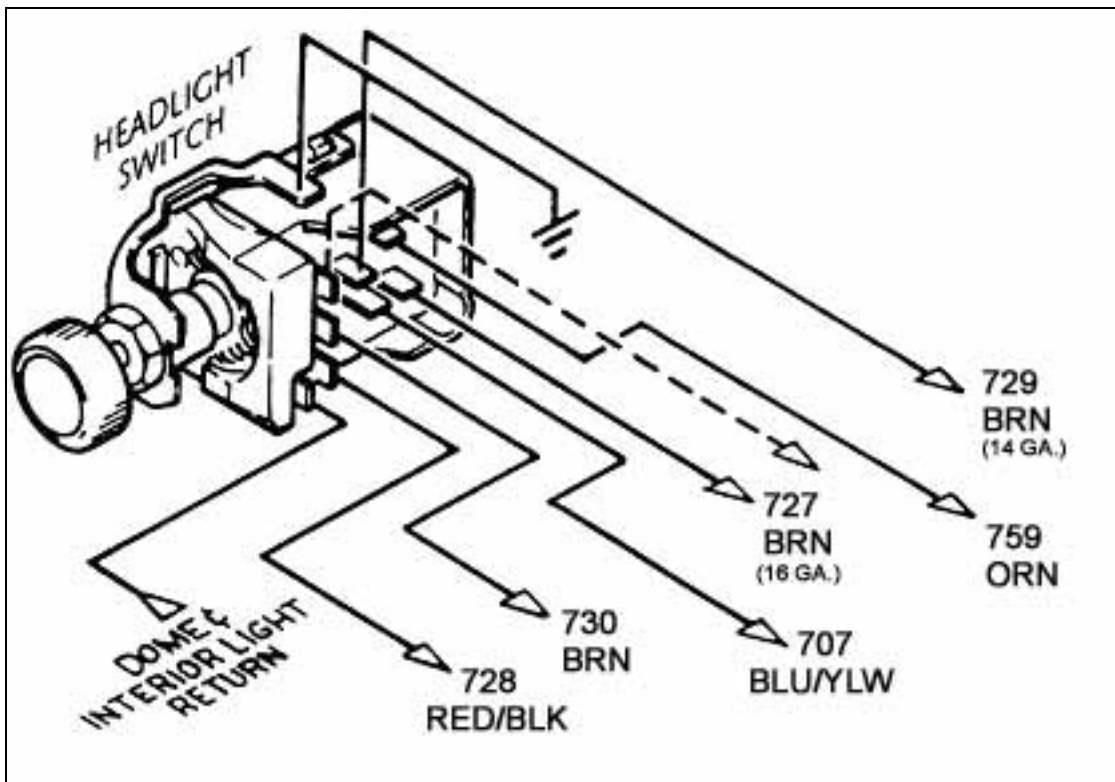

Figure 9-6 HEADLIGHT SECTION B (GM Style Switch – Painless Part #80152)
9.6 HEADLIGHT SECTION B Wiring. See Figure 9-6.
*Note: On late-style GM headlight switches, the park lights terminal to which wire #927 (brn) is connected (shown in **Figure 9-6**) has been omitted. In this case, wire #927 must be connected as indicated by the dashed line in **Figure 9-6**.*